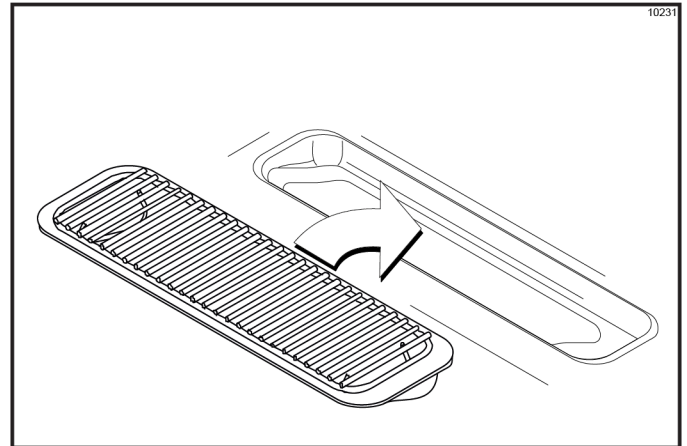

Figure 6-16
- Install the front drip tray and splash shield under the door spout. (See Figure 6-16.)